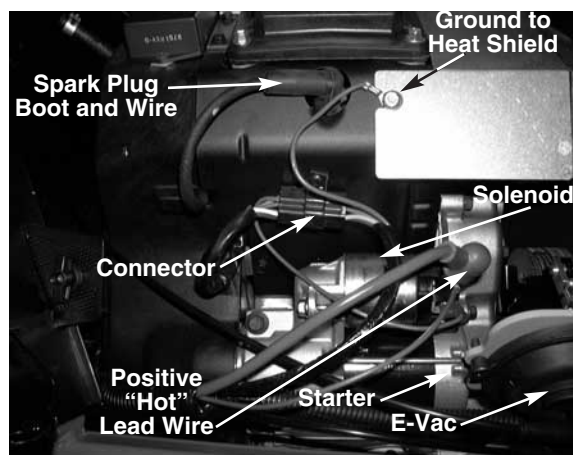

FIGURE 7.
16. Disconnect the wiring harness, ground cables, and any sensor connectors from the engine. See figure 7.